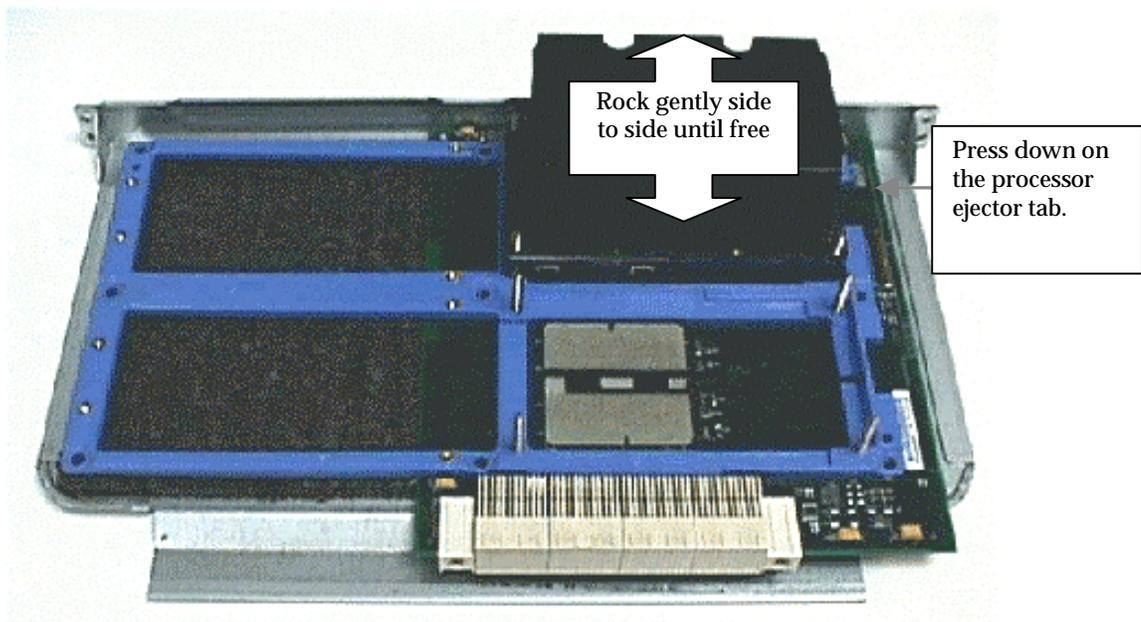

Figure 17 Removing the heat sink
5. After the Power Pod has been completely removed, remove the four (4) processor retaining nuts from the retaining studs at the base of the Itanium processor and set them safely aside.
6. Grasping the heat sink on the processor (while depressing firmly on the black processor ejector tab), gently rock the processor side-to-side until freed from the LIF socket (refer to Figure 17).
12. Position the *blue retention device* back in place on top of the processor board, and replace the nine (9) Phillips-head screws. Tighten the screws, securing the retention device to the processor backing plate (refer to Figure 17 for placement).